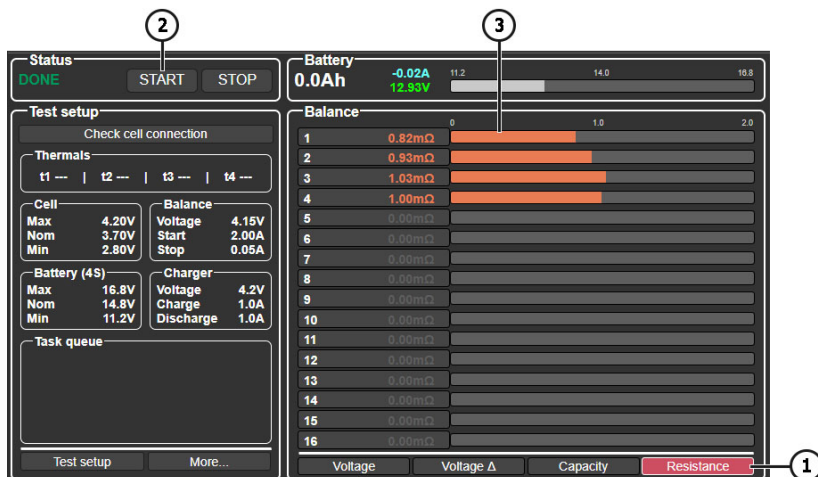

Figure 20
3. In the **main menu**, switch to the internal resistance display mode by pressing the "Resistance" button (see Fig. 20).
4. To **start the test**, press the "Start" button in the main menu (position 2 in Fig. 20). After a few seconds, the test results will be displayed (position 3 in Fig. 20).